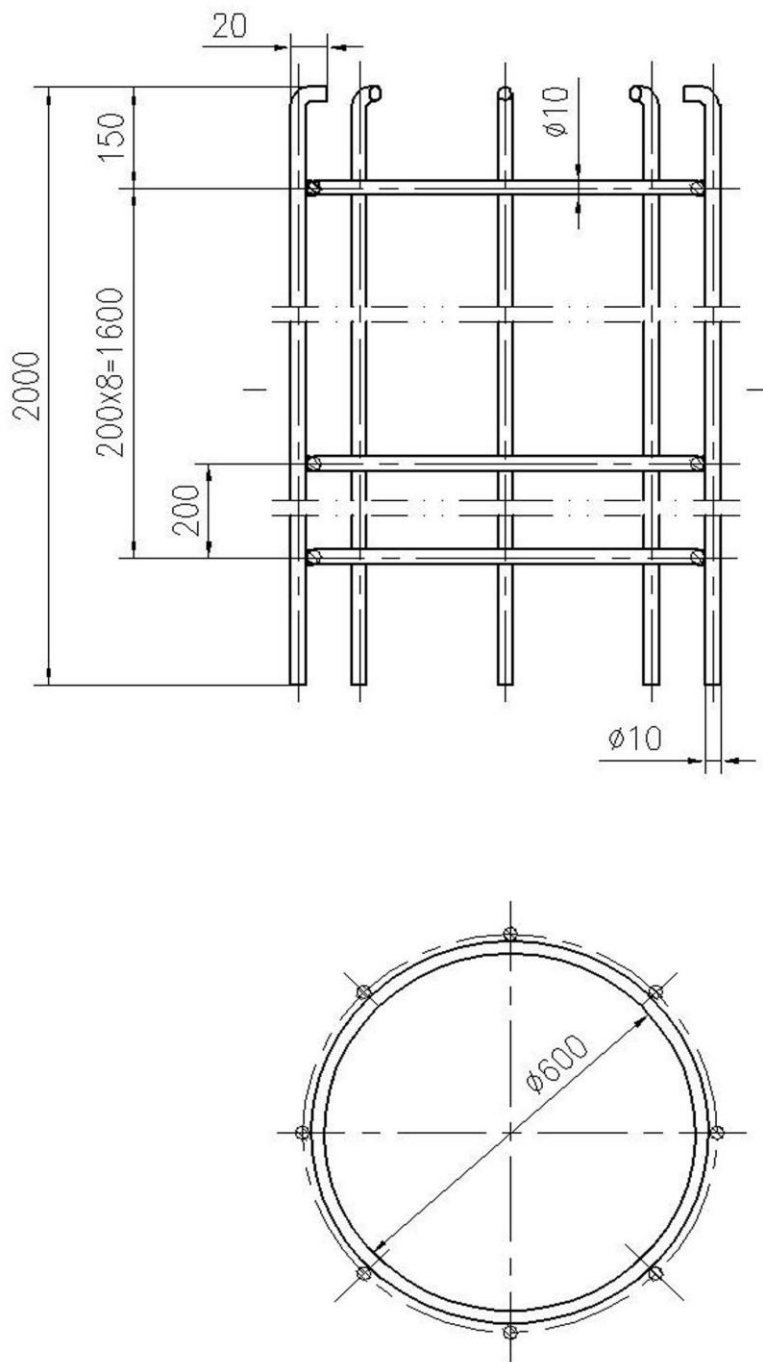

Fig. 3 Foundation Framework
3.4 Dig a hole which is 800mm in diameter and 2000 –2500mm in depth. Build a rebar cage and framework. Never use footings without rebar framework in the cement foundation and footings. Place the orientation plate and 8 foundation bolts into the hole (see fig.2 and fig.3)